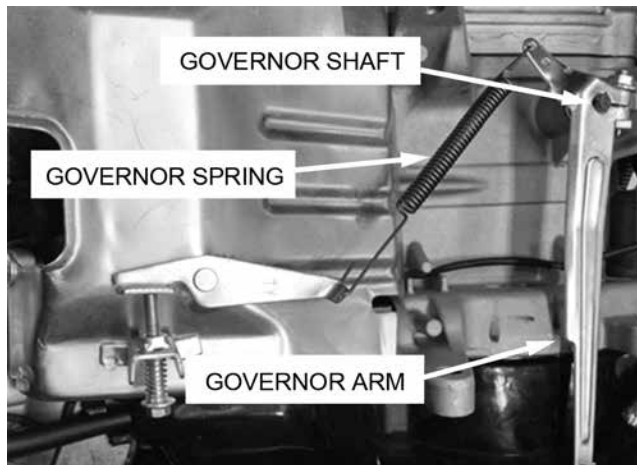

Figure 29.
- Be sure Governor Spring is attached as shown. Governor Arm should be fully seated against cotter pin on Governor Shaft (See Figure 29, pin not shown).